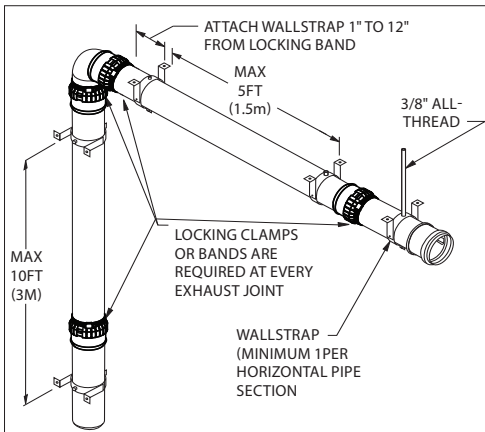

Figure 8
4. Every horizontal vent run must be supported. **(Fig.8)**
6. Vertical pipe lengths must be supported every 10 feet (3 meters) or less. Horizontal pipe lengths must be supported every 5 feet (1.5 meters) or less. **(Fig.8)**
7. Elbows and Tees are sufficiently supported by attaching a wall support within 1" to 12" of the pipe joint holding the Elbow or Tee. **(Fig.8)**